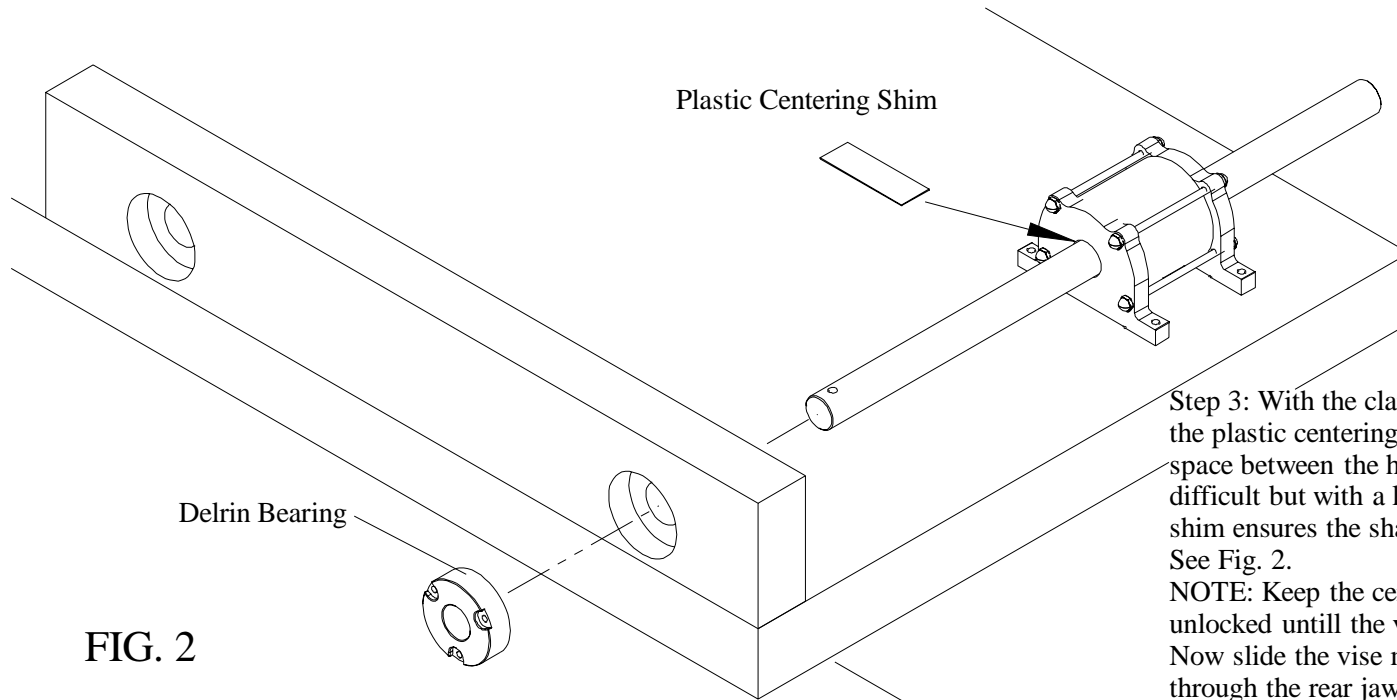

FIG. 2
Step 3: With the clamp shaft unlocked and free to move, spiral the plastic centering shim around the shaft and insert it into the space between the housing and the shaft. This is a little bit difficult but with a little patience can be done. The centering shim ensures the shaft is centered in the opening of the housing. See Fig. 2.